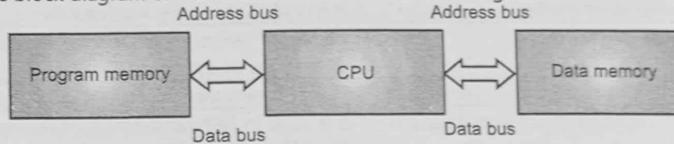

Fig. 1.4: Block diagram of Harvard architecture
- The block diagram of Harvard architecture is shown in Fig. 1.4.